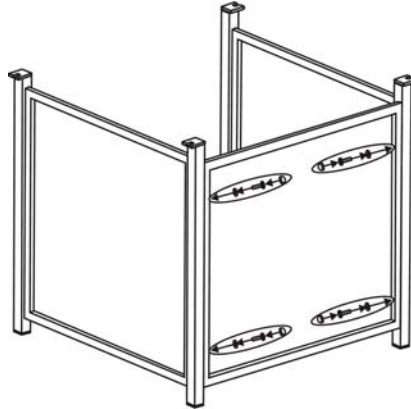

Figure 2
2. Attach the back panel to the side panels by using four 1/4"x40 mm bolts and washers as shown in Figure 2. Guide the bolts through the holes in back panel, into the pre-drilled holes in the side panels. **Hand tighten only.**